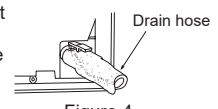
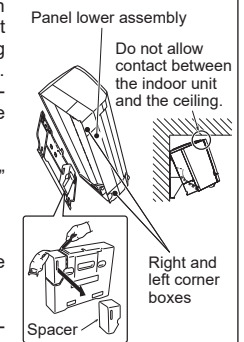

Figure 4
Figure 5
- Insert the drain hose fully into the drain pan at the rear right of the indoor unit. (Figure 4)
- Insert the drain hose into wall hole sleeve (C), and hook the upper part of indoor unit on installation plate (1). Then, move the indoor unit completely to the left in order to make placing the piping in the back space of the unit easier.
- Cut out the spacer from the packaging styrofoam and set it on the rib on the back of the indoor unit. (Figure 5)